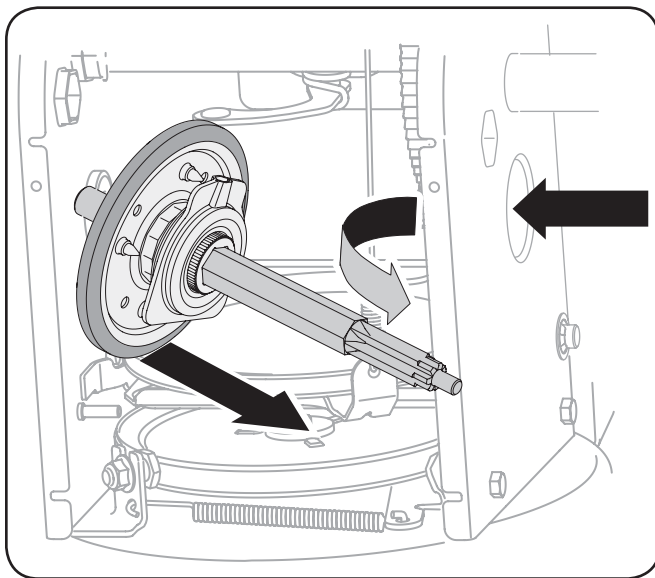

Figure 7-9
- Carefully position the hex shaft downward and to the left before carefully sliding the friction wheel assembly off the shaft. See Figure 7-9.